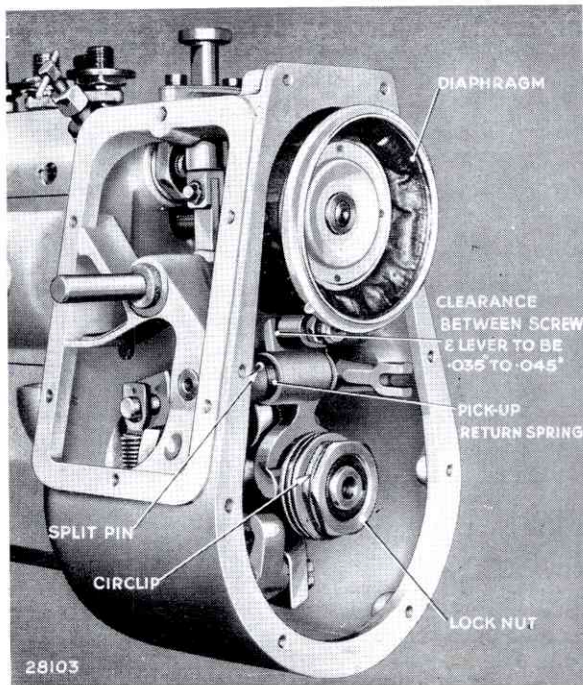
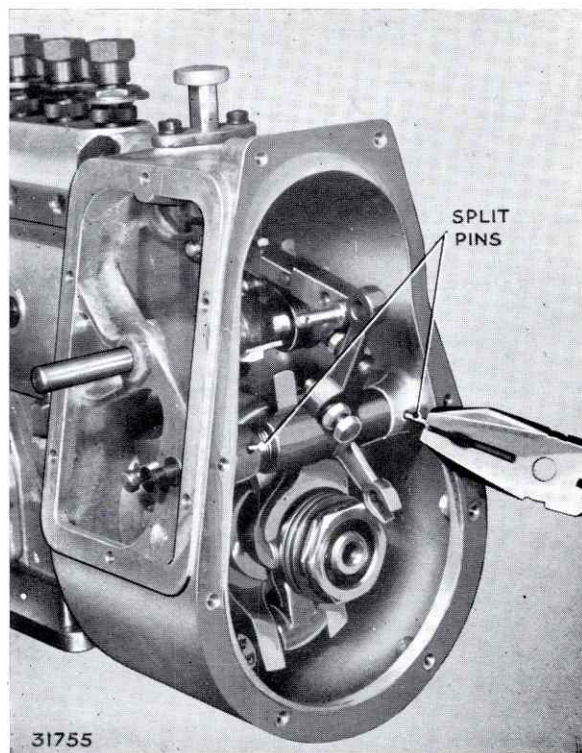

FIG. 83. GOVERNOR WITH COVERS REMOVED
FIG. 84. REMOVING SPLIT PINS SECURING LINKAGE SPINDLE
4. Take out the split pins securing the pivot spindle (Fig. 84), screw a 1/4 in. B.S.F. bolt into the tapped end and withdraw the spindle (Fig. 82). Remove the torsion spring and forked pickup lever (Fig. 83).